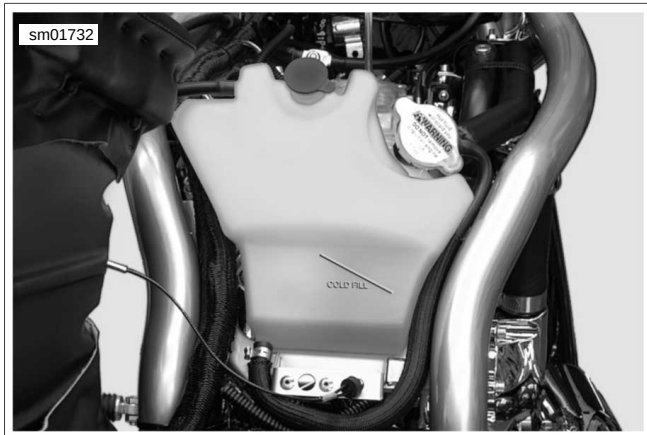

Figure 1-34. Coolant Bottle
2. See Figure 1-34. Remove coolant overflow bottle by pulling bottle upward and rocking bottle free of mounting grommets and gain access to rear plug coil.